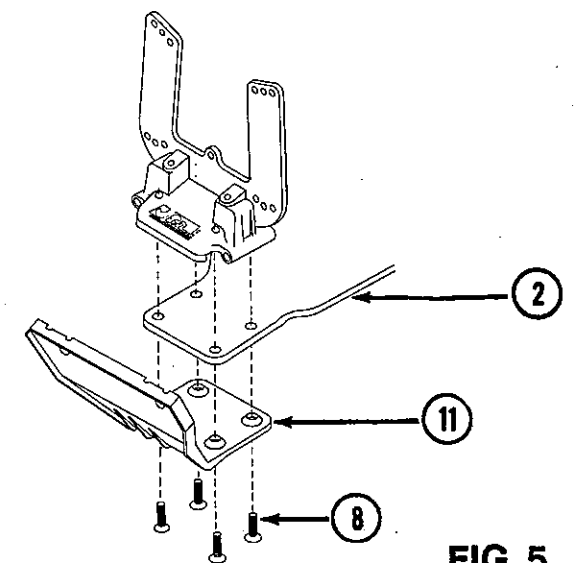

FIG. 5
8. Assemble both front bulkhead (10) and front body mount (11) simultaneously to front of chassis (2) using four 8-32 x 1/2" flathead aluminum screws (8). Fig. 5.